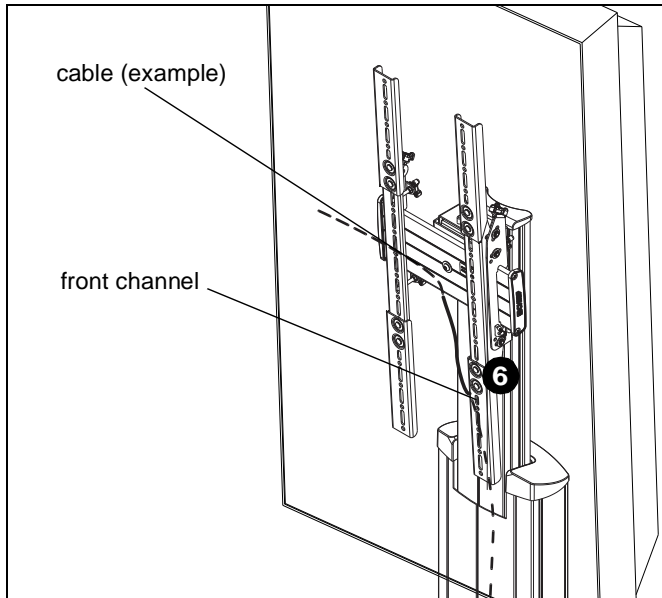

Figure 9
- Route cables from display through front channel of column assembly. (See Figure 9)